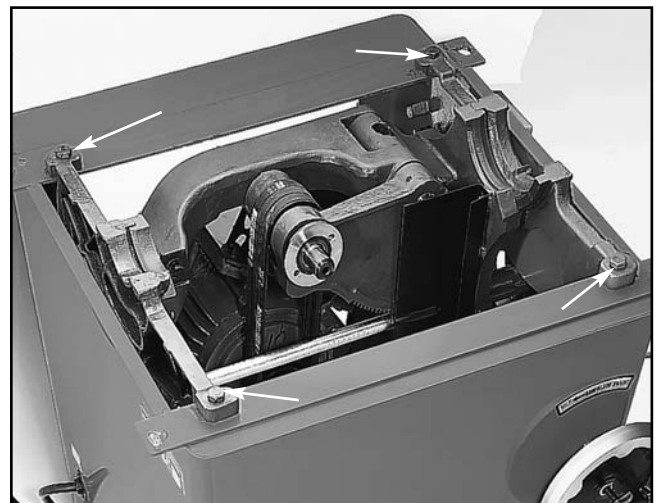

Figure 30A. Trunnion mounting bolts.
3. Loosen the four trunnion mounting bolts as shown in **Figure 30A**, and nudge to either the left or right depending on where the blade is hitting the saw.